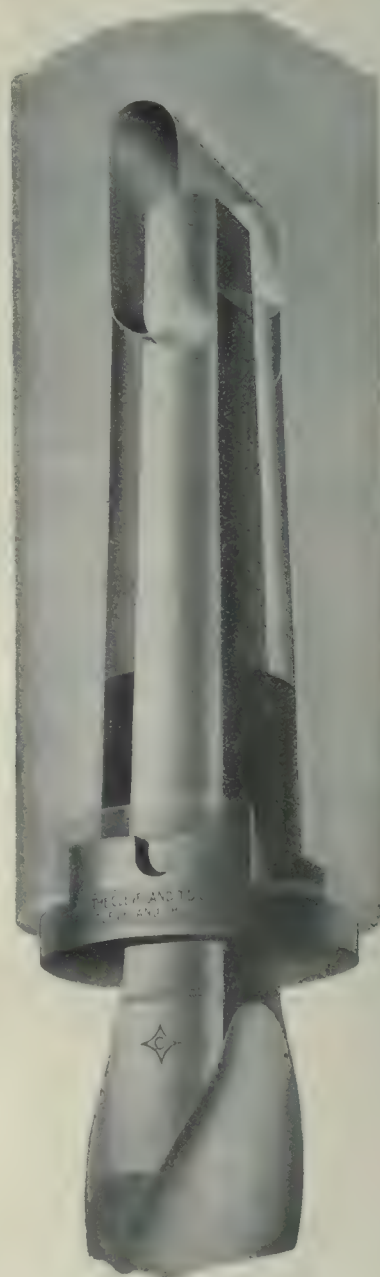

Fig. 2.—Shank, Collet and Spindle in Combination.
Fig. 2 shows the shank collet, and spindle, in combination. The additional drive is provided by means of an extension (E) projecting (upward—in the case of vertical drilling) from the circular base of the collet. This projection mortises into a slot cut across the end of the spindle conforming to the standard slots now being put in the spindles of heavy duty drill presses by several well known manufacturers. That this tongue-and-groove drive at the large end of the shank is very much stronger than any drive on the tang could possibly be, is made evident by a single glance at the figure. The collets without this extension will fit any spindle or socket, and will be furnished to those whose spindles are not fitted with slots, when this requirement is plainly specified, but they will, of course, not have the additional driving strength otherwise afforded. With the extension they make what would seem to be an almost ideally perfect drive for the large sizes of flat twist drills.